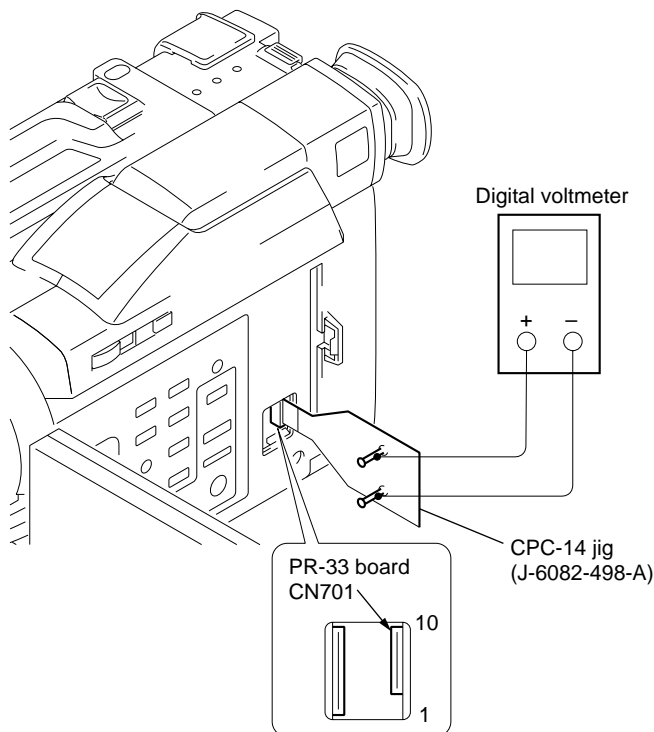

Fig. 5-3-20
- 1) Connect a digital voltmeter to the PR-33 board CN701 via CPC-14 jig (J-6082-498-A) as shown in Fig.5-3-20.